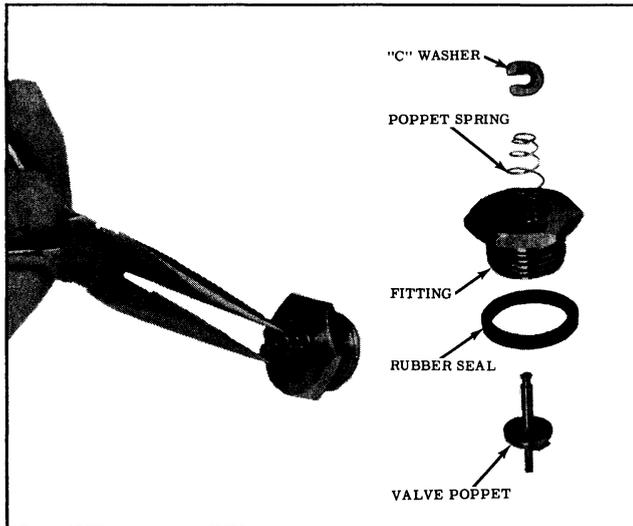

Fig. 7-48 Compensating Valve Assembly
5. If the compensating valve was disassembled, assemble as shown in Fig. 7-48. Crimp "C" washer to retain in place.